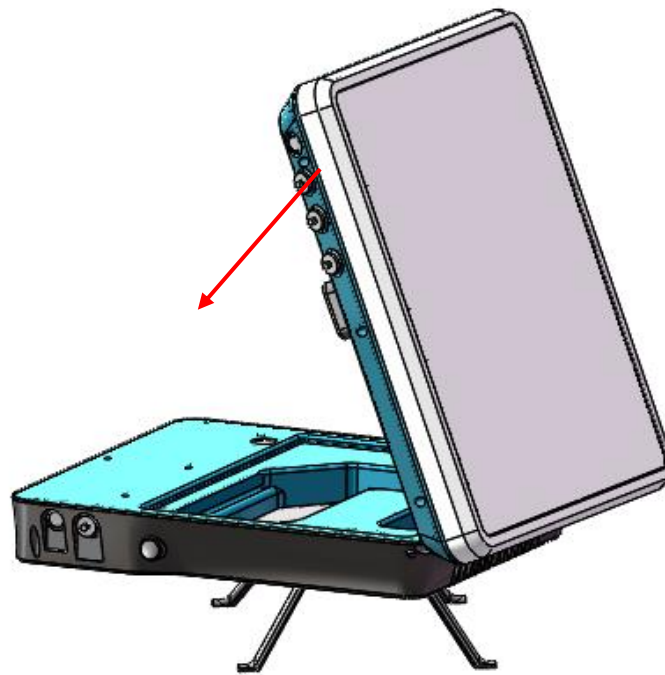

Figure 8-1-3 Polarization Adjustment Scale and Indicator
4. A Hold the top side of the antenna body with your hand and make it fold slowly towards the base with force, as shown in Figure 8-1-3.